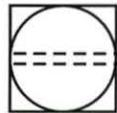

Figure 31. Instrument Tag
2. Determine the type of device indicated by the tag in figure 31.